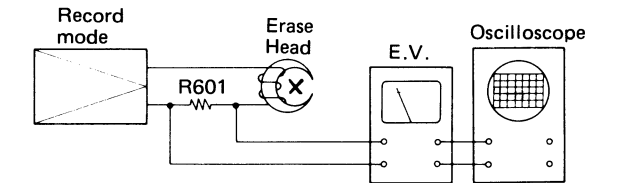

Figure 10-3
1. Make connection of instruments as shown in Fig. 10-3.